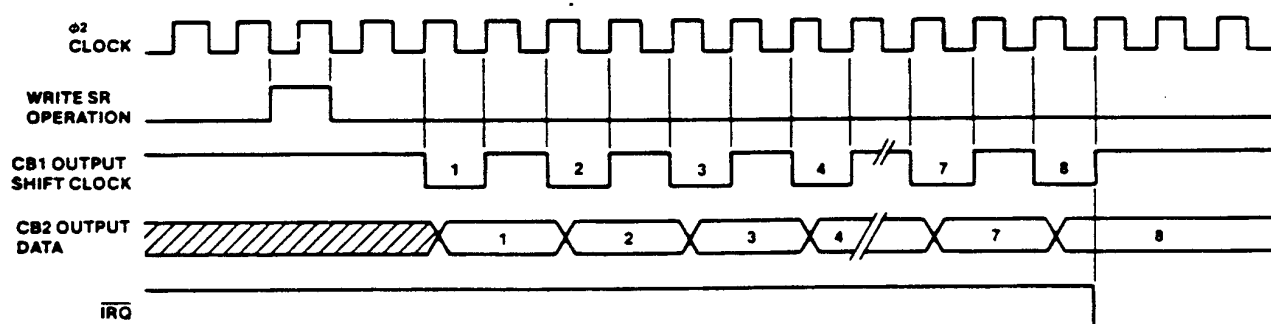

Figure 35. Shift Out— $\phi 2$ Control
Shift Out— $\phi 2$ Clock Control (110)—In this mode, the shift rate is controlled by the system $\phi 2$ Clock. Refer to Figure 35.